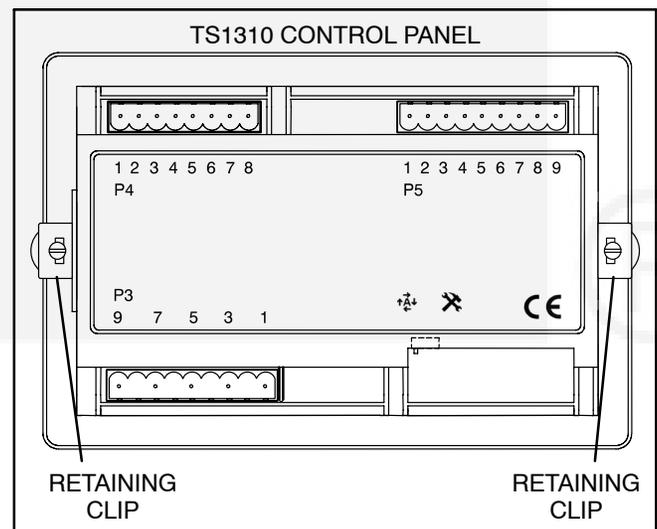

FIGURE 4-5. CONTROL CONNECTORS
3. Unplug the P3, P4, and P5 connectors from the back of the control (see Figure 4-5).
6. Use the two retaining clips to secure the control to the mounting bracket. The clips are installed on the sides of the control (see Figure 4-5).
7. Reconnect the P3, P4, and P5 connectors to the control. Make sure the P3 and P5 connectors are in the correct slots (see Figure 4-5).